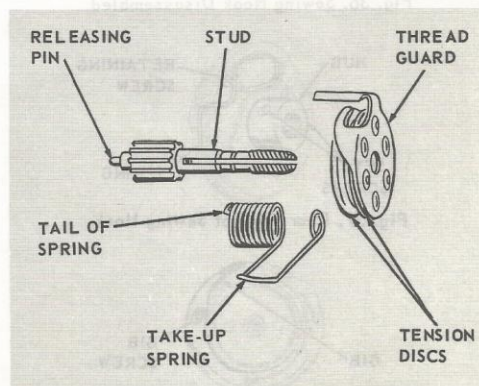

Fig. 33. Take-up Spring Unit
4. Align coils of spring with hole in discs and place this assembly on stud as shown in Fig. 33. Tail of thread guard enters hole provided in machine head.
Note: Tail of spring, Fig. 33, enters one of the grooves in rear of stud. (See instructions for setting take-up spring, page 11.)